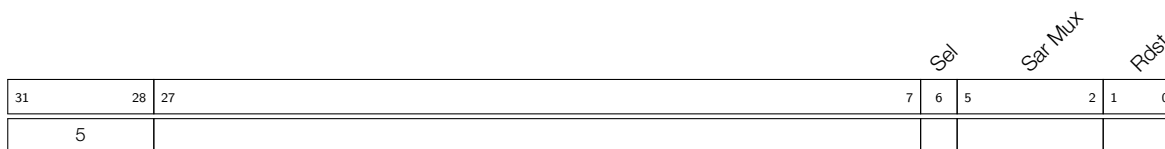

Figure 1-23. Instruction Type - ADC
- Operand**    **Description** - see Figure 1-23